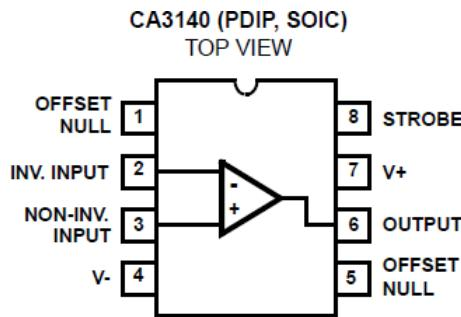

Figure 1: Pin diagram of CA3140
The VU Meter is used for measurement of the output signal amplitude from the PA subsystem; which will be feedback to the controller to control the input amplitude to the PA. Based on the rectifier concepts, the VU Meter is built using CA3140 operational amplifier integrated circuit (IC) whose pin diagram is shown in Figure 1. This IC is to be powered by a single power supply of +15V.